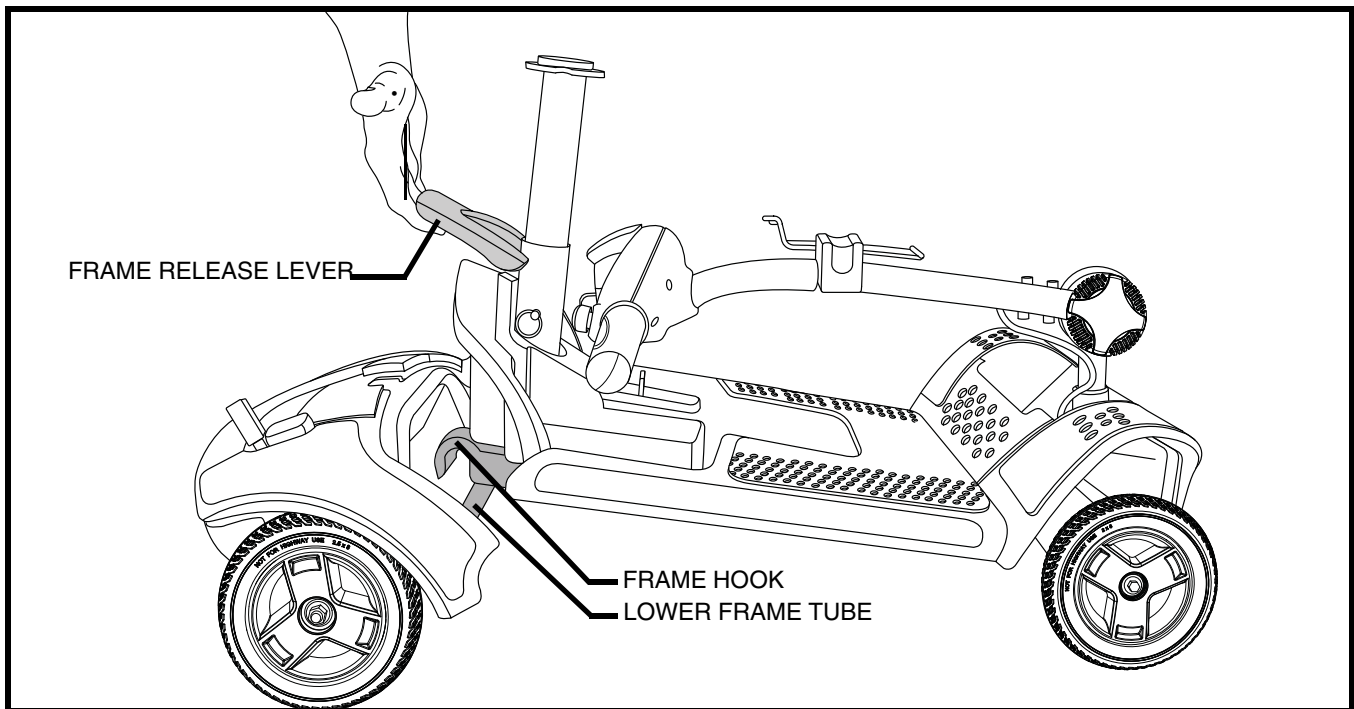

Figure 24. Frame Release Lever
3. Slowly separate the two sections of the Travel Scooter. See **figure 24**.
NOTE: Before attempting assembly, tilt the rear half of the Travel Scooter slightly back on the anti-tip wheels as show in figure 24.
1. Use the frame release lever to lift the front section as you align the frame hooks of the front section with the lower frame tube of the rear section. **See figure 24.**